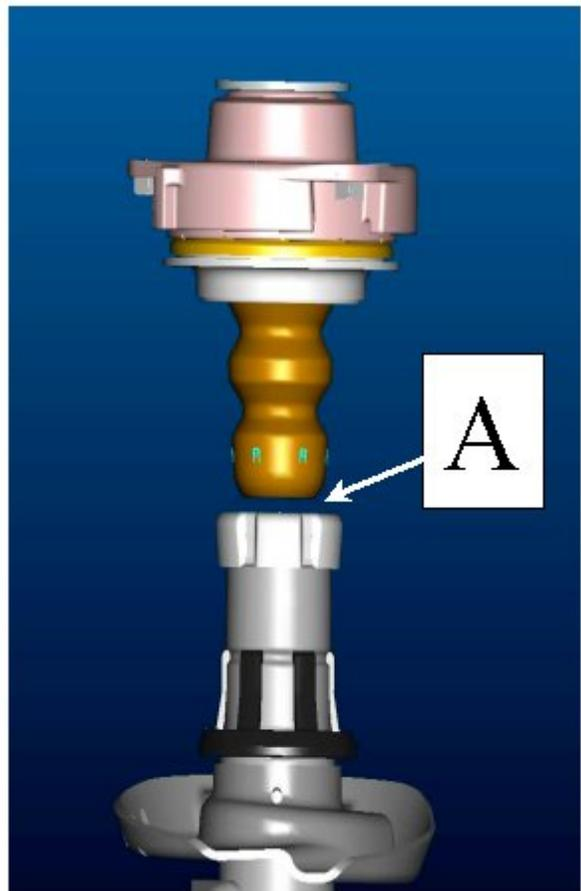

Figure 1. The contact surface of the plastic cap of the suspension strut (A).
1. Brush silicon grease (G 000 405 A2) on the contact surface of the plastic cap of the suspension strut where it makes contact with the rubber stop (Figure 1).